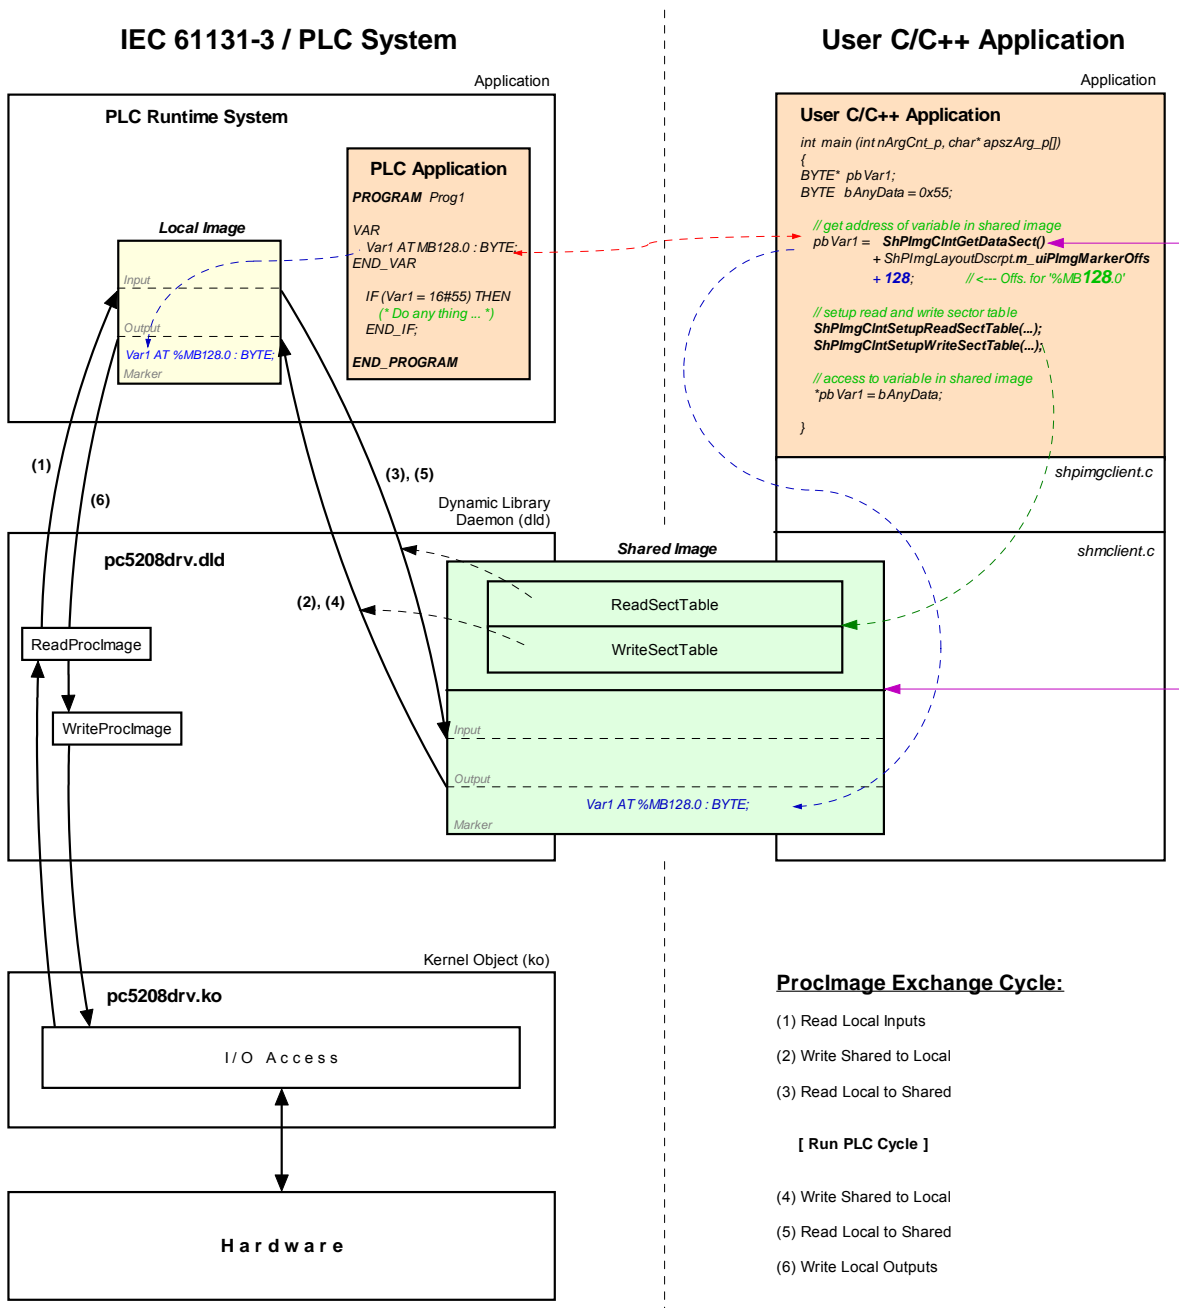

Figure 25: Overview of the shared process image
Not all variables are utilizable via the shared process image within a C/C++ application. Only those directly addressed variables that the PLC program generates within the process image. As shown in Figure 25, two separate process images are used for the data exchange with an external application inside of the PLC runtime system. This is necessary to meet the IEC 61131-3 requirement that the initial PLC process image may not be modified during the entire execution of one PLC program cycle. Thereby, the PLC program always operates with the internal process image that is locally generated within the PLC runtime system ("Local Image" in Figure 25). This is integrated within the PLC runtime system and is protected against direct accesses from the outside. On the contrary, the user-specific, external C/C++ application always uses the shared process image ("Shared Image" in Figure 25). This separation of two process images enables isolation between accesses to the PLC program and the external application. Those two in parallel and independently running processes now must only be synchronized for a short period of time to copy the process data.
An activation of option **"Share PLC process image"** within the PLC configuration enables data exchange with external applications (see section 7.4.1). Alternatively, entry *"EnableSharing="* can directly be set within section *"[Proclmg]"* of the configuration file *"/home/plc/plccore-5208.cfg"* (see section 7.4.3). The appropriate configuration setting is evaluated upon start of the PLC firmware. By activating option **"Share PLC process image"**, the PLC firmware creates a second process image as Shared Memory ("Shared Image" in Figure 25). Its task is to exchange data with external applications. Hereby, the PLC firmware functions as Server and the external, user-specific C/C++ application functions as Client.
Sections to read and write may comprise all sections of the entire process image – input, output as well as marker sections. This allows for example that a Client application writes data into the input section of the PLC process image and reads data from the output section. Figure 25 shows the sequence of single read and write operations. Prior to the execution of a PLC program cycle, the physical inputs are imported into the local process image of the PLC (1). Afterwards, all sections defined in *WriteSectorTable* are taken over from the shared process image into the local process image (2). By following this sequence, a Client application for example is able to overwrite the value of a physical input. This may be used for simulation purposes as well as for setting input data to constant values (*"Forcen"*). Similarly, prior to writing the process image onto the physical outputs (6), sections defined in *WriteSectorTable* are taken over from the shared process image into the local process image. (4). Thus, a Client application is able to overwrite output information generated by the PLC program.
As illustrated in Figure 25, the user-specific C/C++ application exclusively uses the API (Application Programming Interface) provided by the *shared process image client*. This API is declared in the